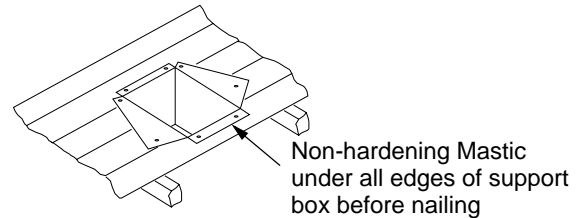

Figure 35 - Installed Cathedral Ceiling Support Box
- Using tin snips, cut the support box from the top corners down to the roofline and fold the resulting flaps over the roof sheathing (see Figure 35). Apply a bead of non-hardening mastic around the top edges of the support box to make a seal between the box and the roof. Nail in place with roofing nails. Remove any combustible material that might be inside of the support box.